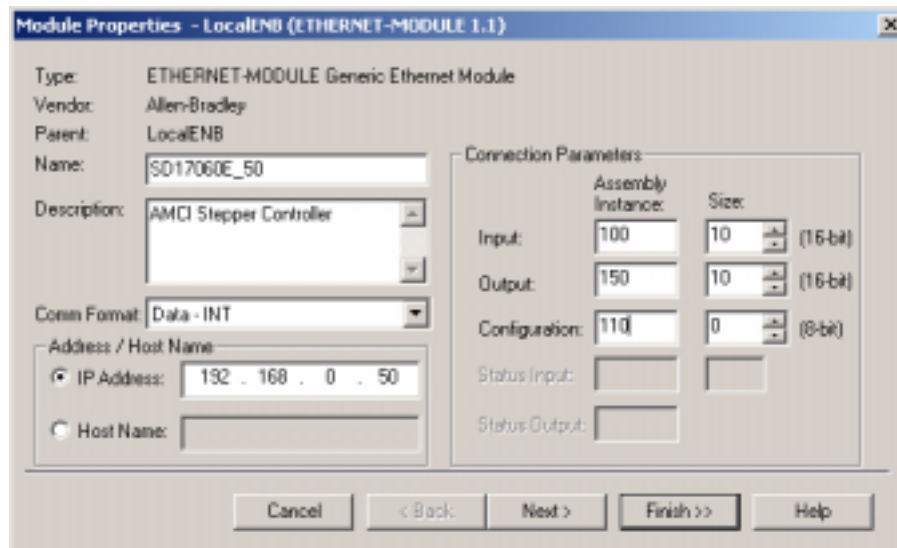

Figure 6.4 Sample SD17060E Configuration Screen
- 3) Set the following parameters in the *Module Properties* window. All parameters not listed here are optional. Figure 6.4 shows a completed screen.